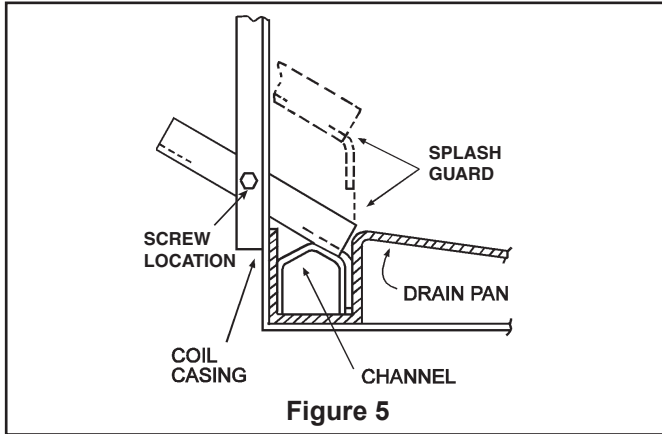

Figure 5
- f. The splash guard packaged with the coil is for horizontal left coil installation only. The guard has a bend which is inserted into the front channel of the horizontal drain pan on the outlet air side of the coil case. The guard is then rotated downward until it rests in the drain pan. One field supplied sheet metal screw is driven through the coil case duct flange on the front side and into the splash guard side hole. See Figure 5.